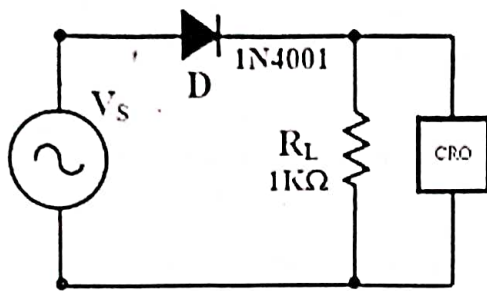

Fig.1
1. Build the following circuit (Fig. 1). Connect the oscilloscope to observe the voltage waveforms at the i/p of the circuit. . 2. Adjust the vertical sensitivity controls for maximum on screen display on both channels with zero at the center of the screen. Draw the waveforms and measure the ac voltage across the secondary of the transformer and DC voltage across R with DMM. 3. calculate the theoretical value of the dc o/p voltage by using the formula $V_{dc} = V_m / \pi$ where V_m is the peak secondary voltage ($V_{dc} = 2V_m / \pi$ for full wave). Compare this value with the measured dc value of o/p. Connect the CRO across R_L . You must use DC coupling to properly show the output waveform, Note down its amplitude, V_o . 4. Increase the vertical sensitivity for maximum on screen display of the **positive part** of the waveforms. Set the horizontal sweep control for a display of two or three output pulses. **Draw the waveforms.** Measure ac voltage across the load resistor, R_L , with the DMM.